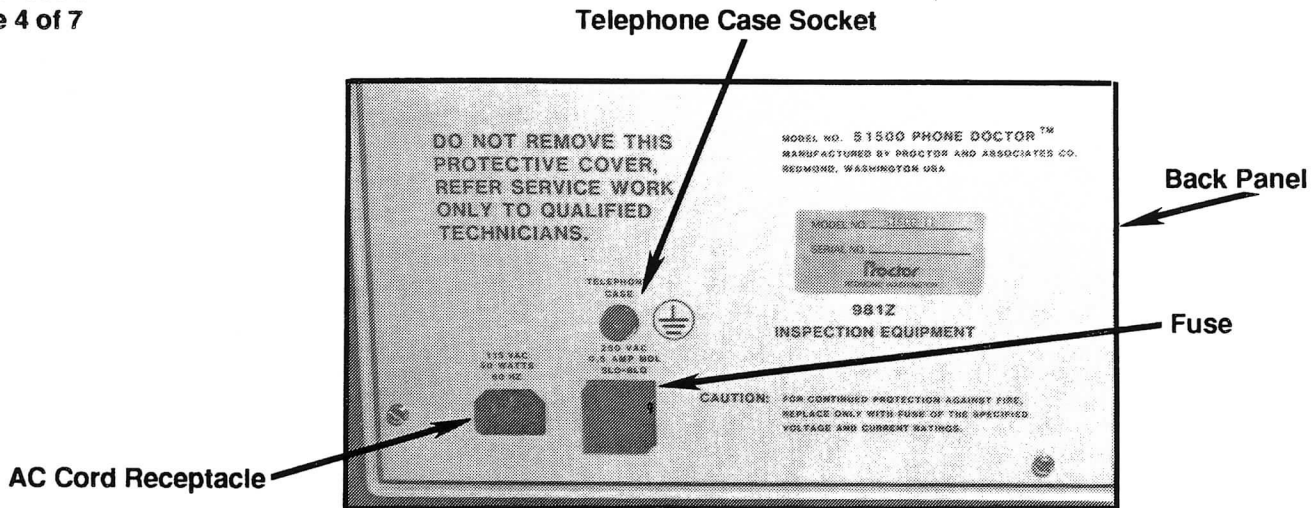

Figure 3. Back Panel Components.
- (1) Press INSULATION SAFETY button.
- (2) Watch for the warning message to appear in the display window.
- (3) Attach the supplied Case Leakage Cord to the metal telephone base or the metal fingerstop on the dial, and insert the opposite end of the cord into the TELEPHONE CASE socket on the back panel of the unit, next to the fuse. (See Figure 3.)
- (4) Take the telephone off-hook.
- (5) Remove hand from telephone.
- (6) Press INSULATION SAFETY button again.
- (7) Check result - PASS or FAIL.
- (8) Disconnect the Case Leakage Cord.